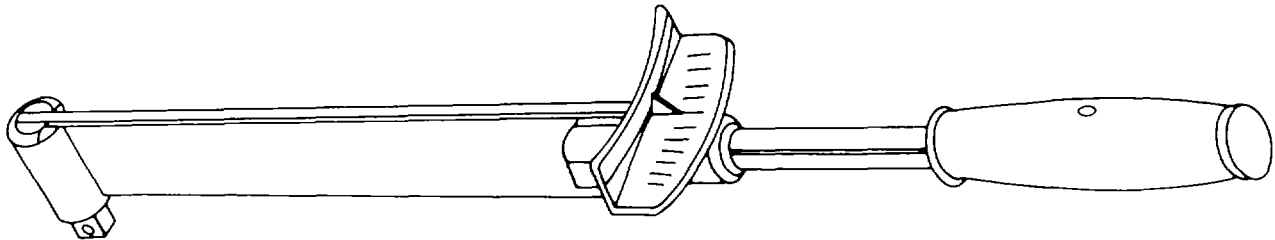

Figure 8-5. Type I, Class 1, Style A Torque Wrench - Deflecting Beam with Indicator Plate (Direct Reading)
a. *Types.* In aircraft maintenance applications, the rigid frame with the indicating dial and the audible indicating torque wrenches are used in preference to the flexible beam-type wrench. The audible-indicating torque wrench is preferred since it can be used in places of limited accessibility where it would be difficult to read a dial or scale while performing the tightening operation. For the combinations of features available in torque wrenches, see figures 8-5 through 8-14.